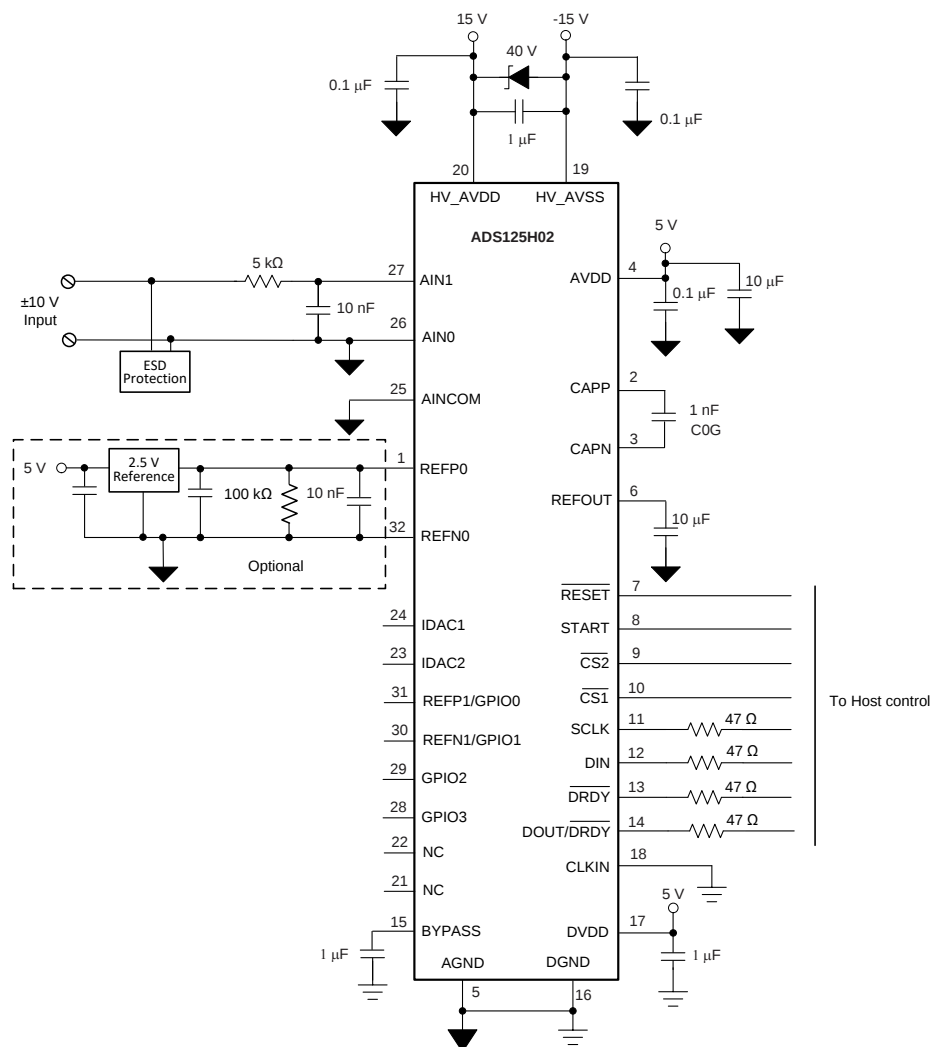

图 53. ±10-V Analog Input PLC Module
**图 53** illustrates an circuit example of a ±10-V analog input programmable logic controller (PLC) module using the ADS125H02. The ±10-V input signal from the field transmitter is first clamped by external ESD diodes to help protect the ADC inputs. The positive input signal is connected to the ADC input AIN1 through an RC filter to help filter RFI interference that can be picked up in noisy environments. The resistor also acts to limit input current in the event of an overvoltage event or during loss of module power when the signal is present. The negative input signal is connected to input AIN0, which is also connected to AGND.